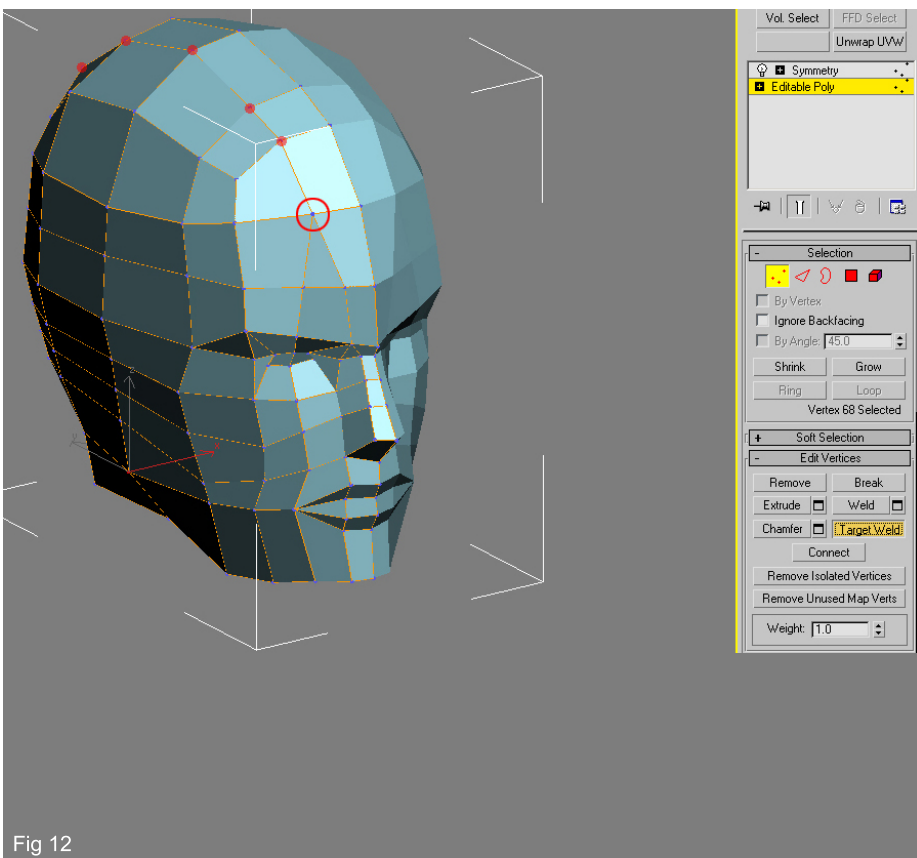

Fig 12
12. As we gradually refine our model we inevitably add more detail but sometimes it is useful in low poly characters to actually remove unnecessary detail that can be supplemented by a texture. At the moment we have six rows of polygons running over the top of the head – more than we really need. In Vertex mode click on the "Target Weld" tab and weld together the line of verts running upward from the corner and center of the eye starting with the one ringed in red in Fig12.